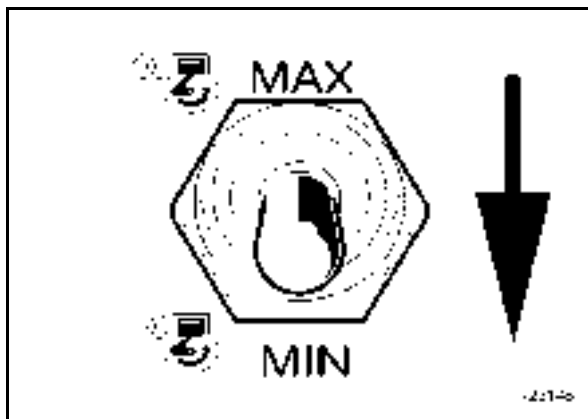

Fig. 53
- Change to idle speed (Fig. 53) and let the engine run for another few minutes for cooling.